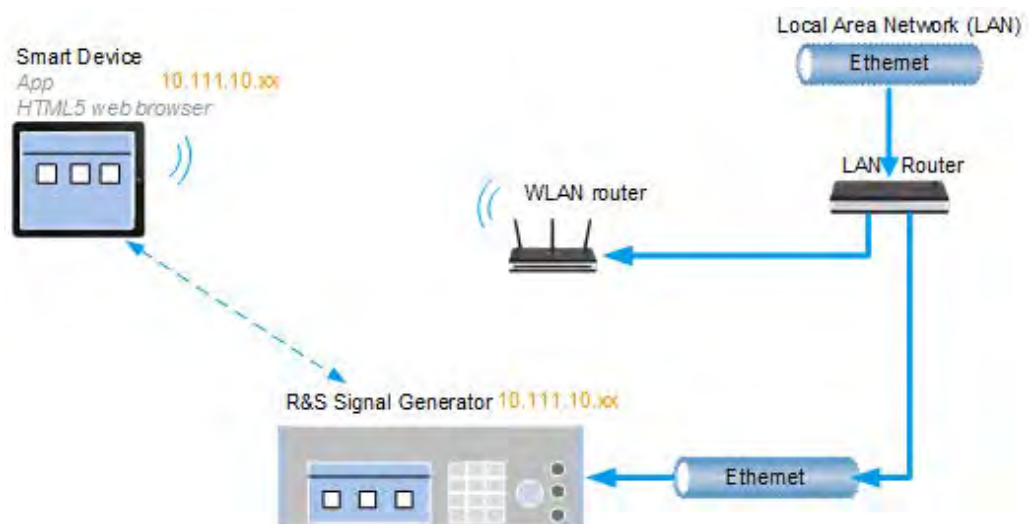

Figure 13-8: Example of a network configuration for remote operation with a smart device
1. Set up the network connection as shown in Figure 13-8